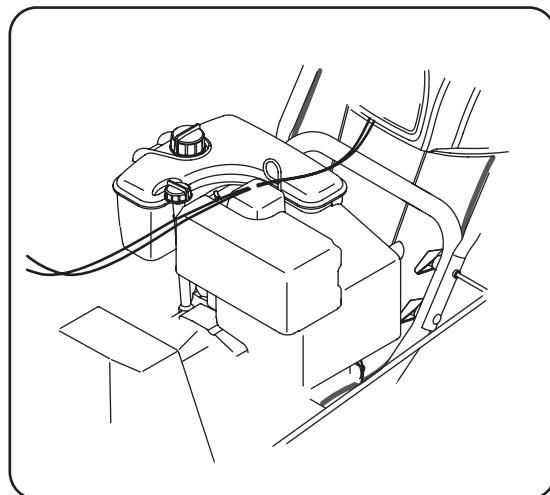

Figure 7
- If not already attached, slip the cables that run from the handle panel to the discharge chute into the cable guide located on top of the engine. See Figure 7.